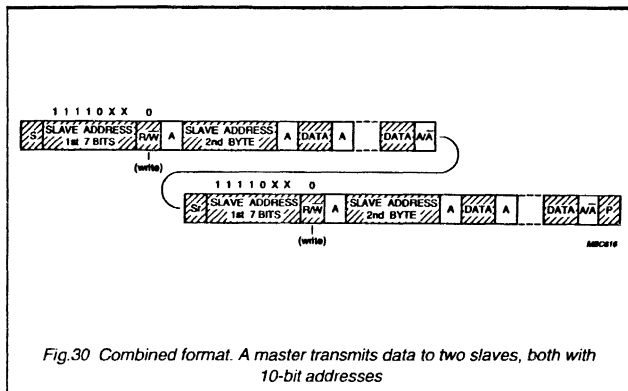
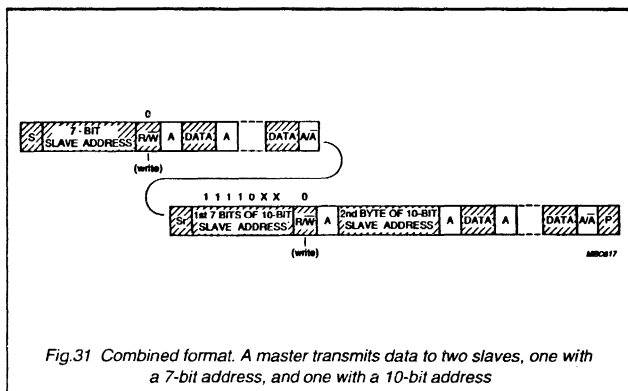

Fig.30 Combined format. A master transmits data to two slaves, both with 10-bit addresses
Fig.31 Combined format. A master transmits data to two slaves, one with a 7-bit address, and one with a 10-bit address
- **Combined format. A master transmits data to one slave and then transmits data to another slave (Fig.30).** The
- **Combined format. 10-bit and 7-bit addressing combined in one serial transfer (Fig.31).** After each START condition (S), or each repeated START condition (Sr), a 10-bit or 7-bit slave address can be transmitted. Figure 30 shows how a master-transmits data to a slave with a 7-bit address and then transmits data to a slave with a 10-bit address. The same master occupies the bus all the time.